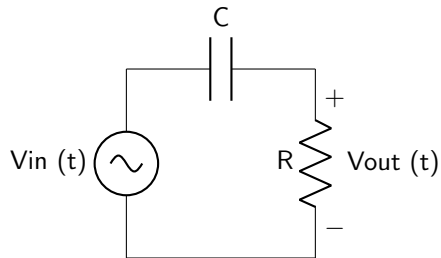

Figure 11.1: Filter circuit diagram.
1. What type of filter is shown in figure 11.1? How do you know?